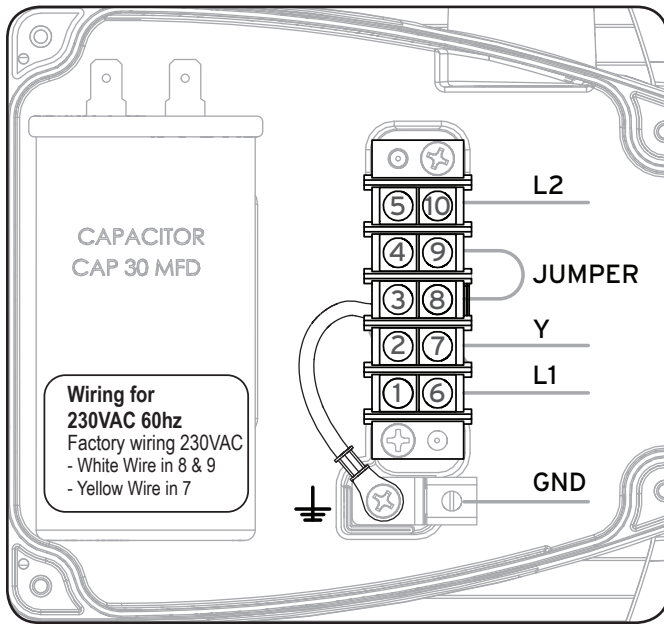

Figure 5. Factory Wiring For 230VAC
3. Wire electrical supply according to Figure 5.
4. Secure conduit to the connection port with a 1/2" conduit elbow or comparable conduit connection. See Figure 5. Be careful not to damage or abrade any of the wiring.